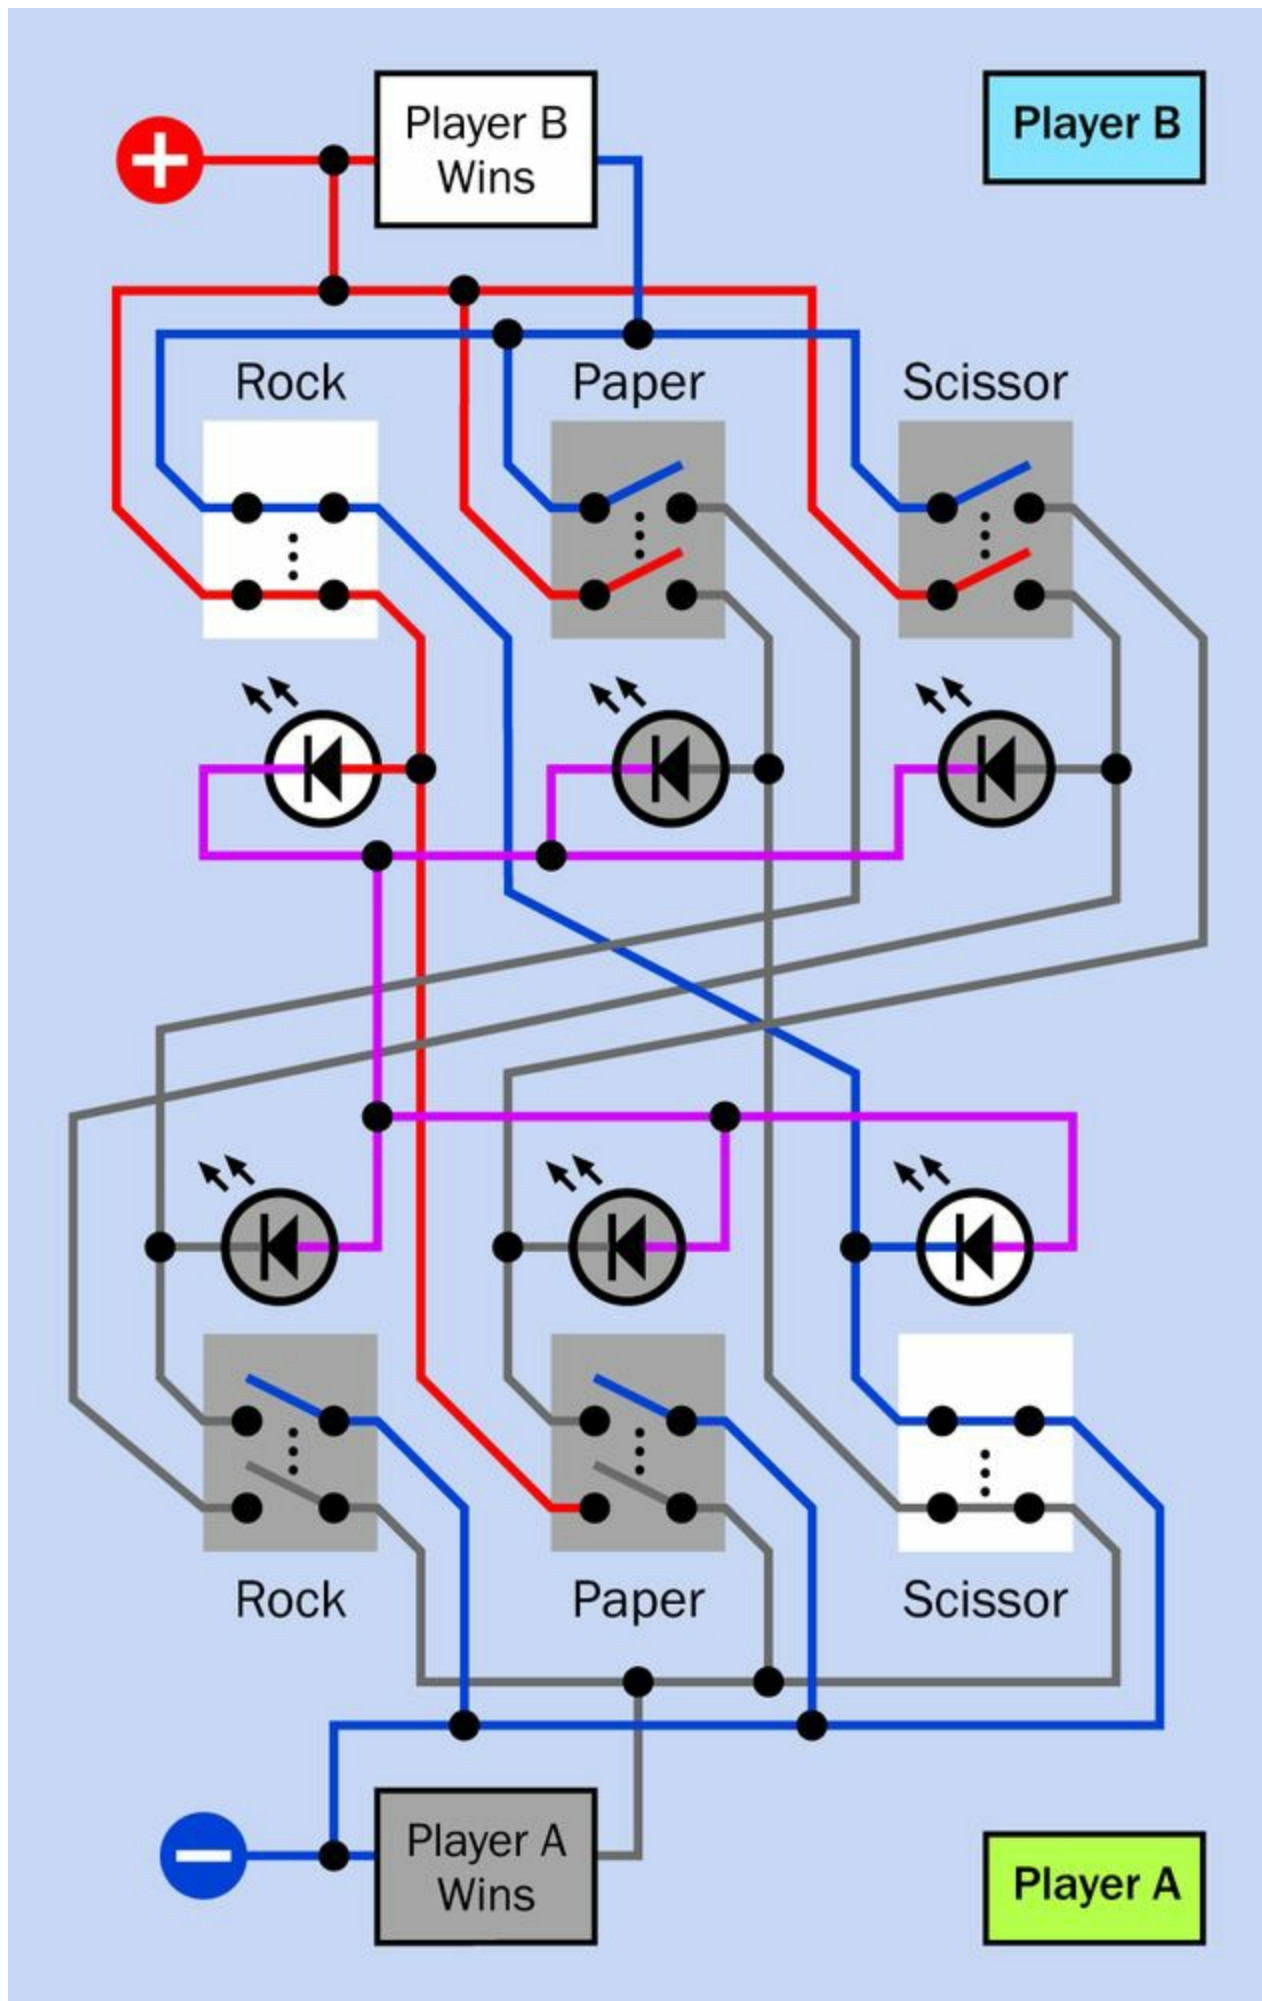

Figure 18-6. In this example showing how two switches illuminate the appropriate LEDs, Player B has chosen “Rock” while
**Figure 18-6** shows an example of how this circuit works, in a situation where Player B presses the “Rock” switch while Player A presses “Scissors.” The conductors that are now directly connected with positive are shown in red, while the negative connections are shown in blue. Inactive wires, switches, LEDs, and indicators are grayed out. The magenta wires carry a reduced current that has passed through one LED but has not yet passed through a second LED.